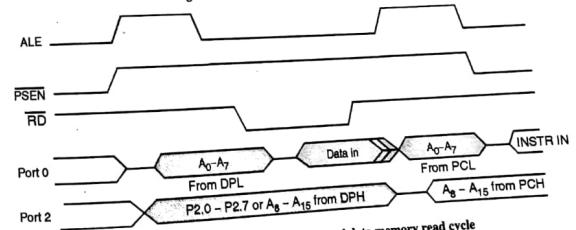
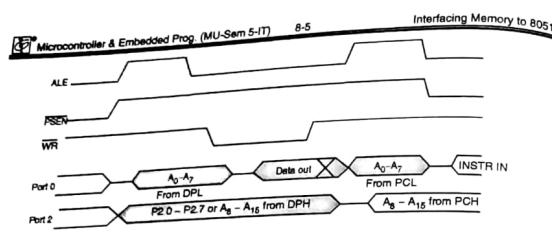

Fig. 8.2.7 : Timing diagram for external data memory read cycle
Fig. 8.2.8 : Timing diagram for external data memory write cycle
- The RD and WR signals will according select memory read and memory write operation respectively. Fig. 8.2.7 shows the timing diagram for external data memory read cycle and Fig. 8.2.8 shows the timing diagram for external data memory write cycle.